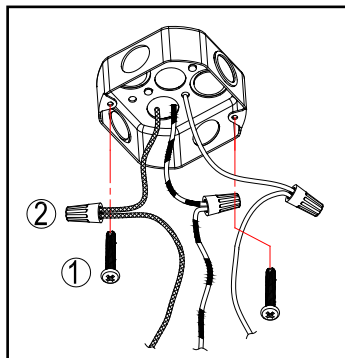

Figure 2
3. Connect the black and white wires of the luminaire with two wires of the same color from the junction box with wire caps. Connect the ground wire of the luminaire with the one from the junction box (see figure 2).